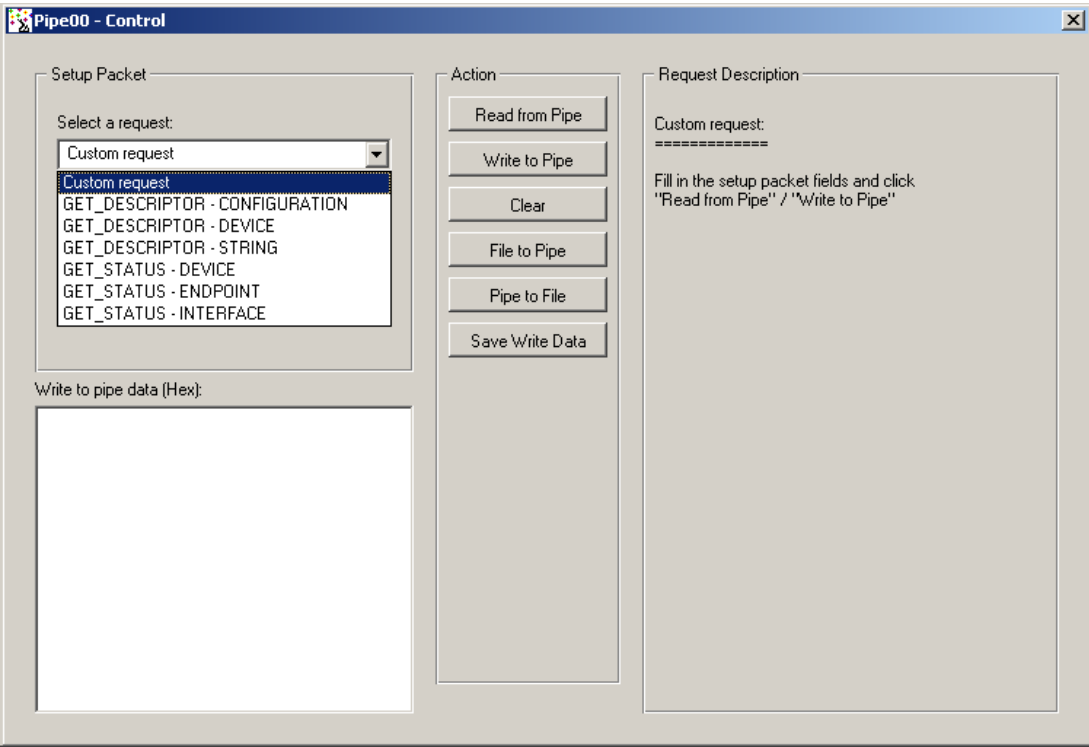

Figure 9.4: Request List
- For a standard USB request: select a USB request from the requests list, which includes requests such as **GET_DESCRIPTOR CONFIGURATION**, **GET_DESCRIPTOR DEVICE**, **GET_STATUS DEVICE**, etc. (see Figure 9.4). The description of the selected request will be displayed in the **Request Description** box on the right hand of the dialog window.